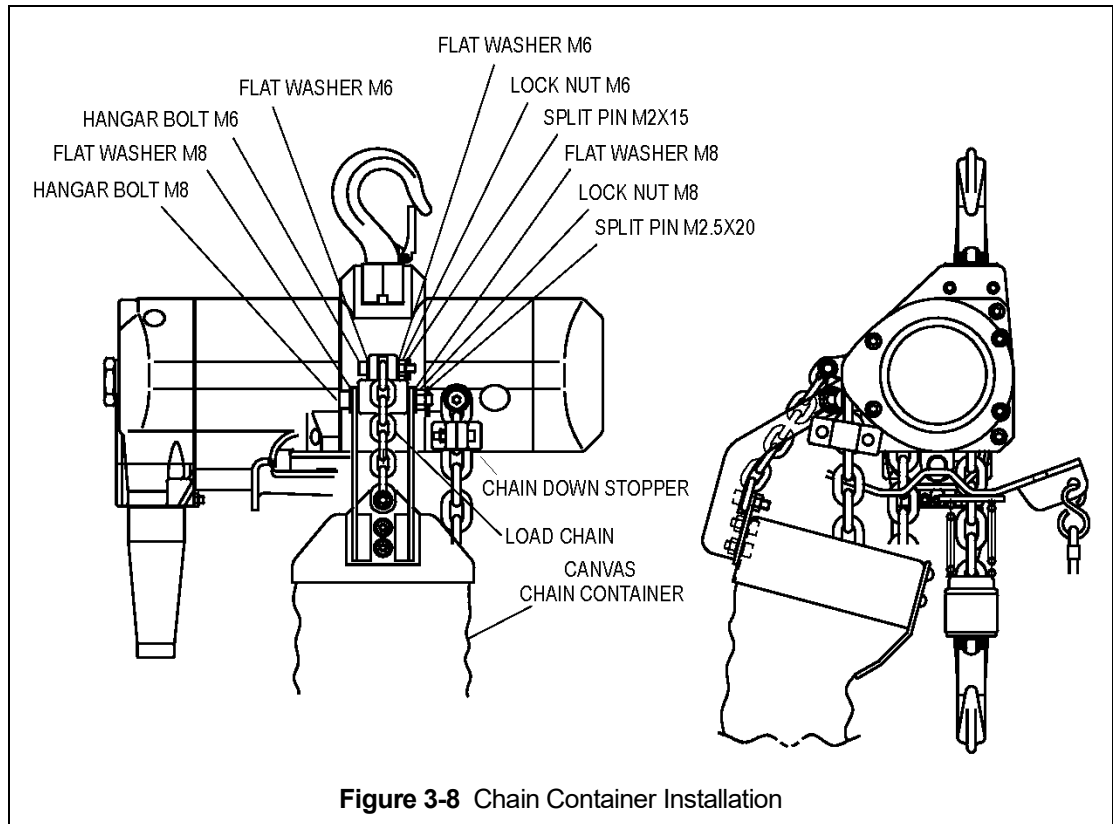

Figure 3-8 Chain Container Installation
3.11.1 Follow instructions below to install the optional chain container. Refer to Figure 3-8.